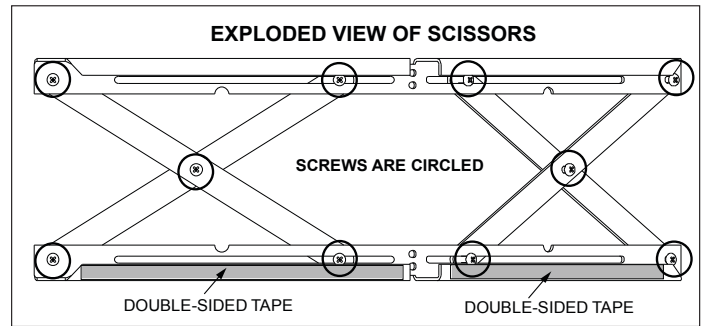

Figure 23.1
1. The 10 screws on each set of scissors will already be loose when shipped. **Figure 23.1.**